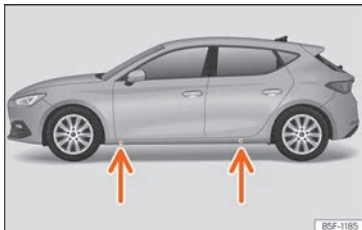

Fig. 45 Jack position points.
- Find the support point on the strut (sunken area) closest to the wheel to be changed » **Fig. 45.**